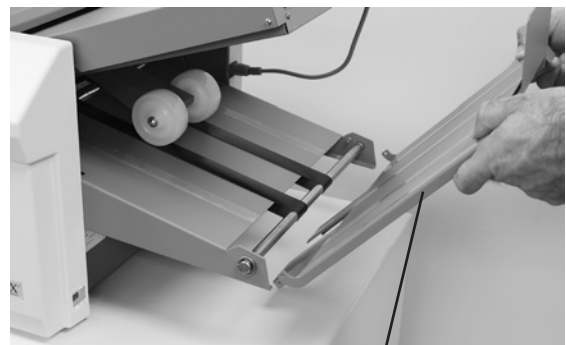

Fig. 2
4. Insert the telescoping extension tray into the end of the outfeed conveyor (Fig. 2).